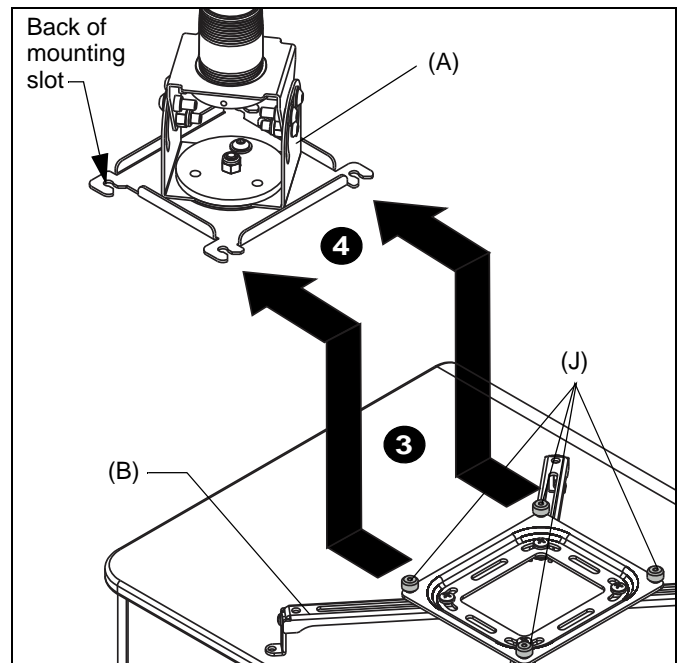

Figure 8
2. Orient projector with attached interface bracket (B) with VPAU (A). (See Figure 8)
3. Lift projector so that screws with thumb nuts (J) are aligned with mounting slots in projector mount.